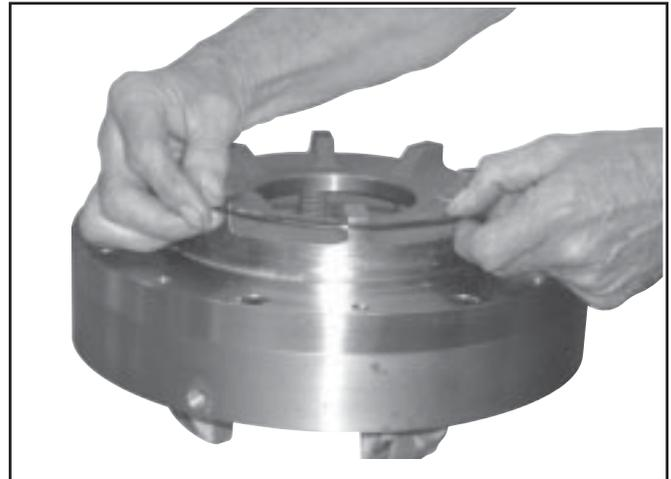

Figure 3.5
1. (**MB-250**) Lubricate the O-ring (#33) with Vaseline or equivalent and install into the O-ring groove in Housing (#8). (**MB-280, MB-320**) Lubricate the O-ring (#33) with Vaseline or equivalent and install it onto the Piston Assembly (See *Figure 3.5*).